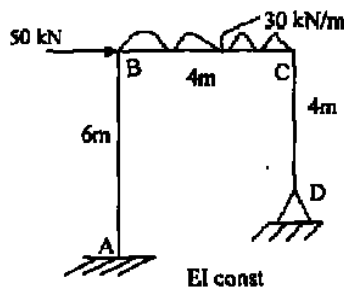

Fig.2
2. Analyse the portal frame ABCD shown in Fig .2 using force method.